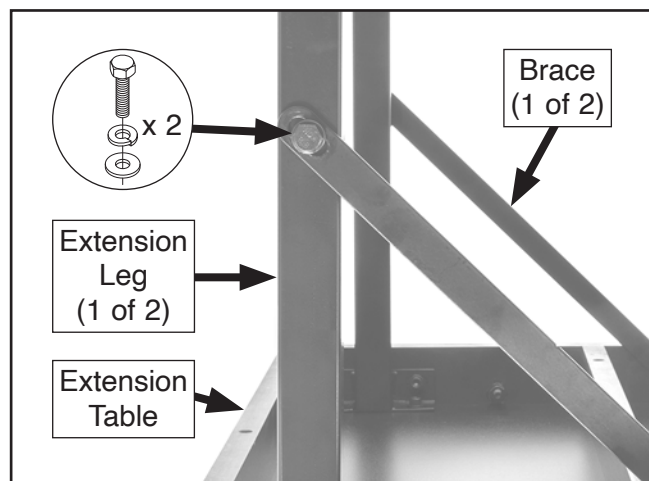

Figure 25. Braces attached to extension legs.
10. Attach (1) brace to each extension leg with (1) M8-1.25 x 16 hex bolt, 8mm lock washer, and 8mm flat washer, as shown in **Figure 25**.